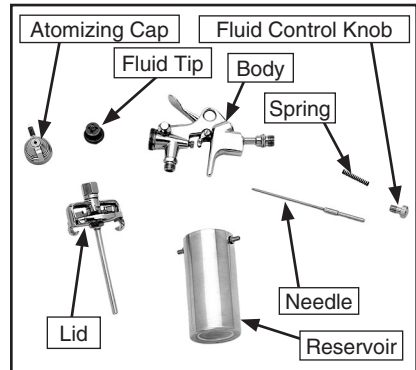

Figure 13. Small gun disassembled.
4. Disassemble the gun by unscrewing the fluid control knob, then remove the spring and needle (Figures 13 and 14).
5. Unscrew the atomizing cap with your fingers and the fluid tip with a wrench. The fully disassembled gun should look like Figure 13 and 14.